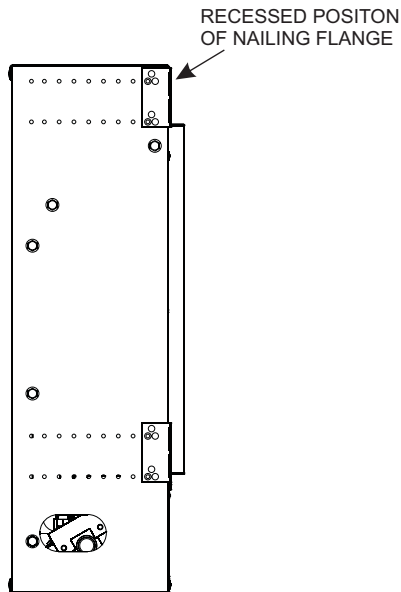

Figure 41
5. Screw nailing flanges into the fireplace with hex screws provided in hardware pack. **See Figure 41.**